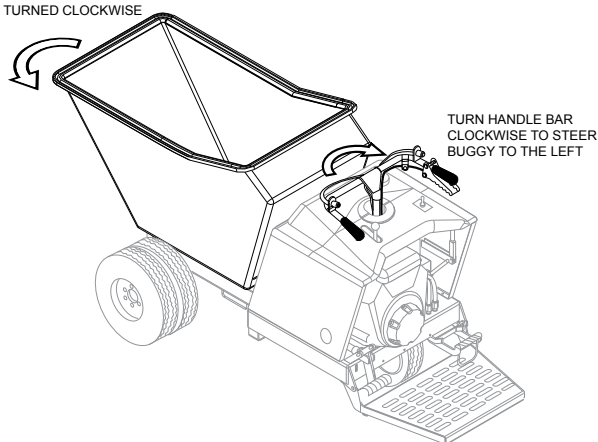

Figure 20. Steering the Buggy
When operating the WBH16EAWD in rough or uneven terrain, use the AWD/2WD switch (Figure 20) on the right hand side of the operator's console.
1. To turn left when traveling in the forward direction, turn the handle bar clockwise (Figure 20).